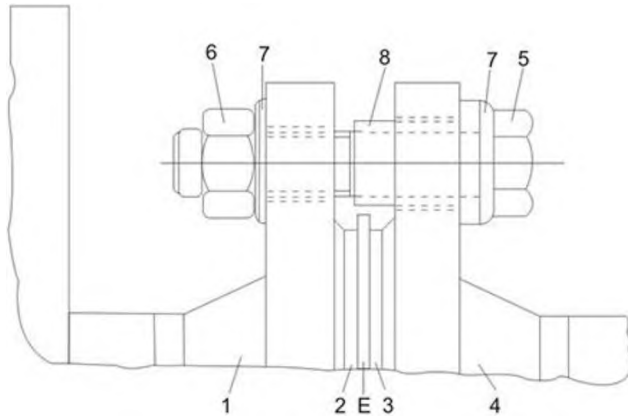

Fig.3 Insulated Bolts in Cathode Protected Tube E-earth ring;
- 4)Penetrating bolts for flange coupling should be insulated from the flanges with insulated liner and gaskets. Please see Fig.3.